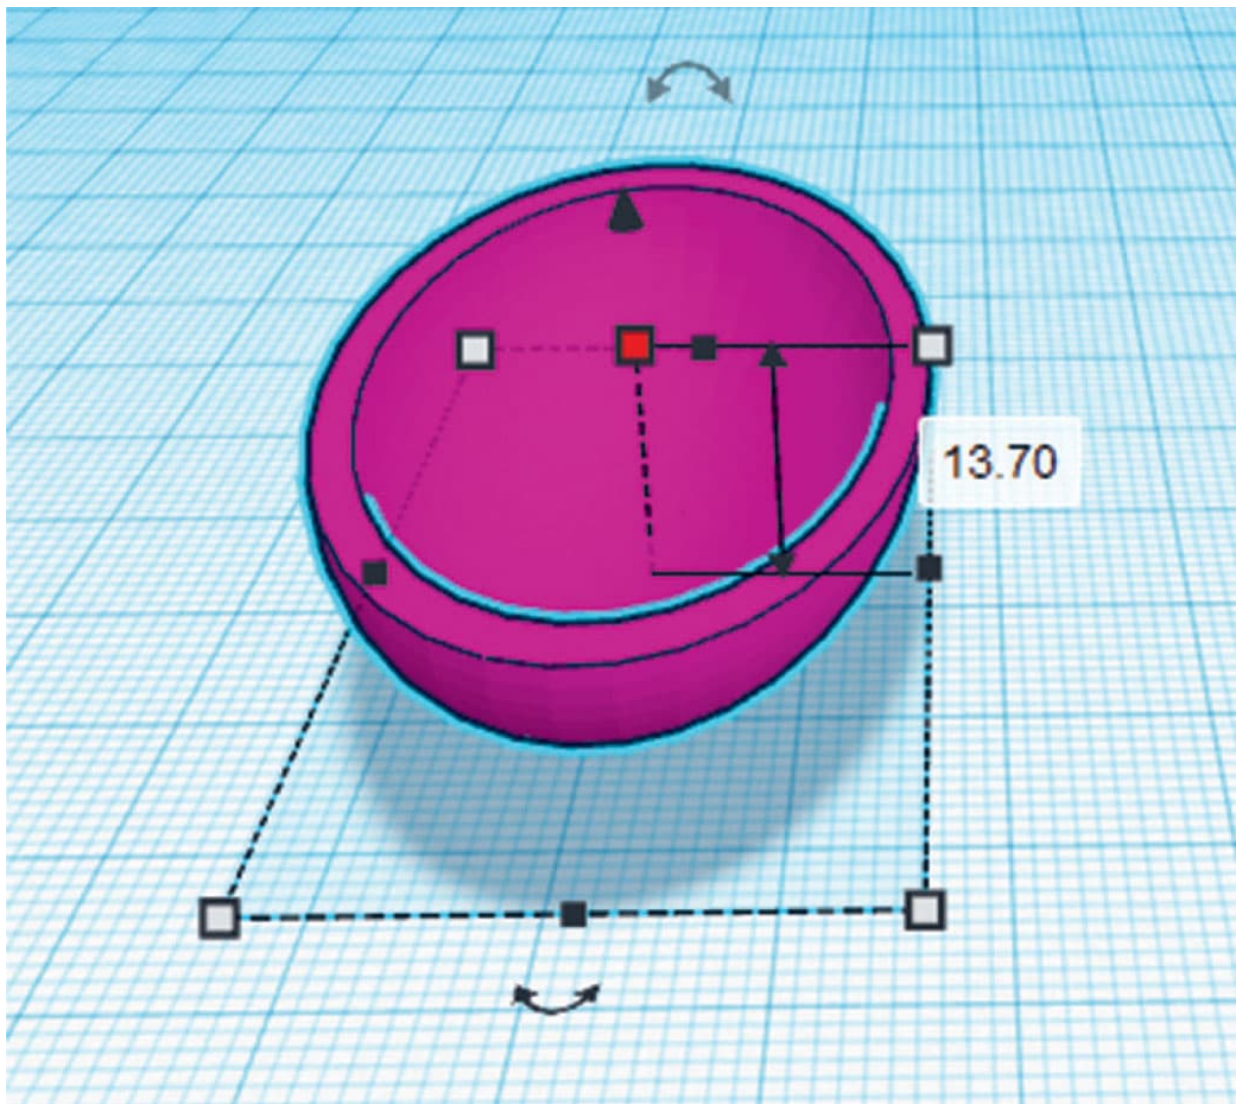

FIG. 3: Group the half-spheres and resize.
3. Group the two half-spheres and resize. The length should be about 55 mm , width 30 mm , and height about 13 mm as shown in fig. 3.